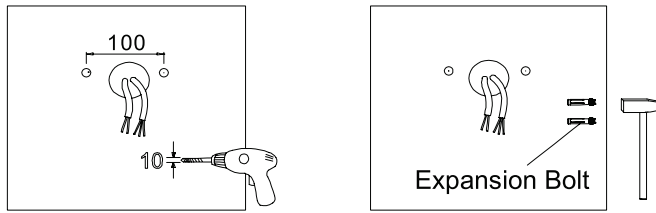

FIG.8
Drill (2) 3/8" holes with 4" spacing on the wall/surface, insert the bolts with hammer, as shown in (Figure 8). Mount the fixtures to the bolts and tighten the bolts.